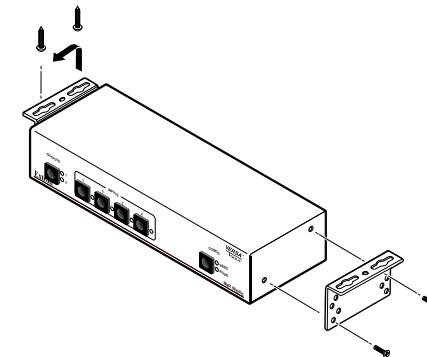

Figure 2-3 — Under-desk mounting the MMX
2. Attach the mounting brackets to the switcher with the machine screws provided (figure 2-3).